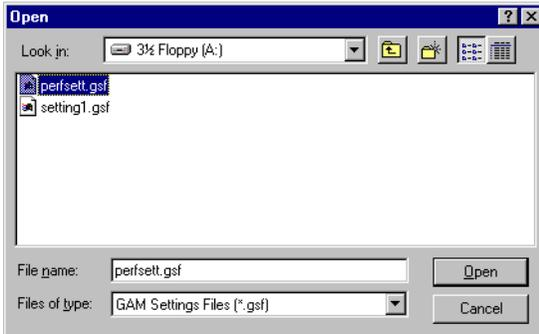

Figure 5-40. Open Previously Saved Settings
1. Click Open Settings. An Open dialog box is displayed (Figure 5-40).